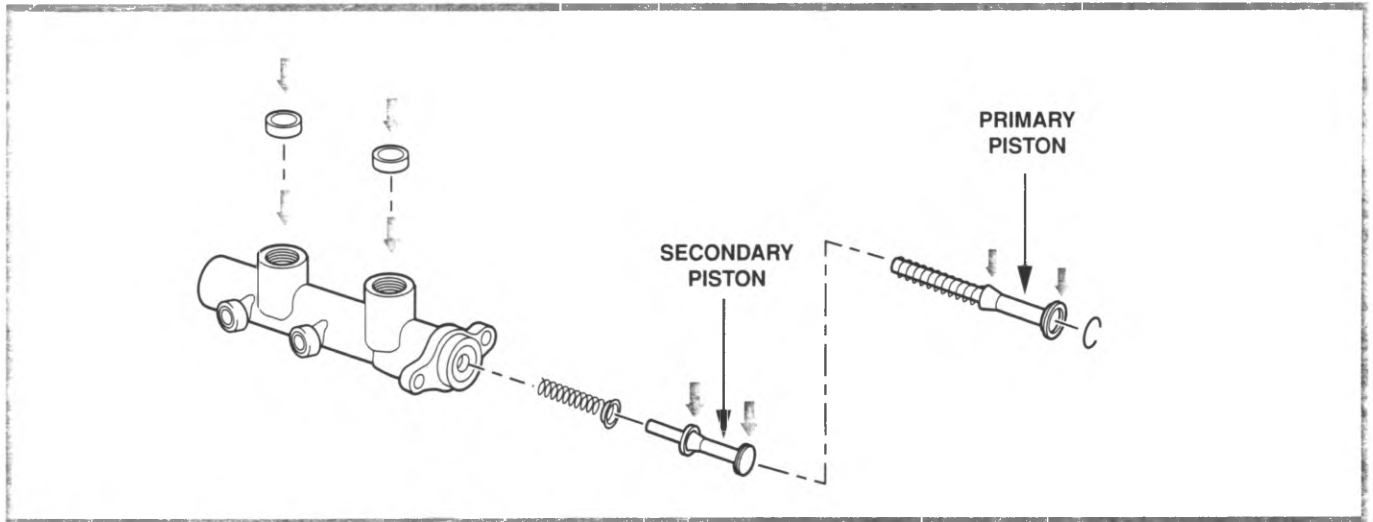

Figure 4-11, **Lubricate Components**
1. Lubricate the grommets, seals and the cylinder bore with clean brake fluid (figure 4-11).